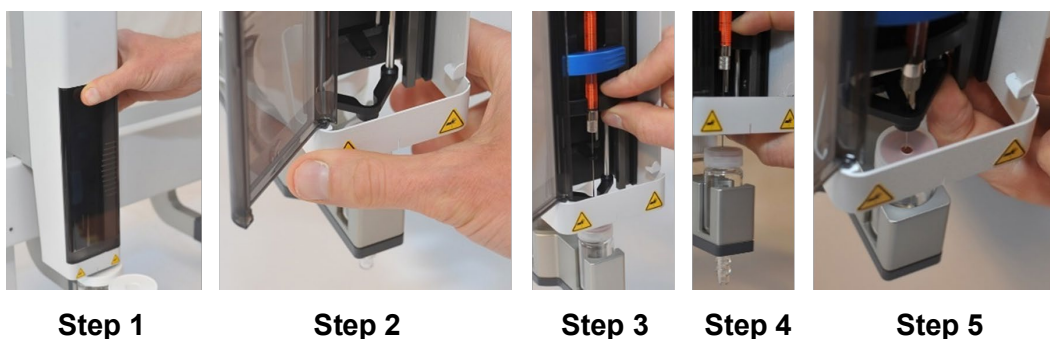

Figure 42: Autosampler Configurator/Tower Teach Position
- **Teach XYZ** – Press this button to teach the position of vial 1 (reference vial, frontmost position, the waste port vial). The tower will move to the last known position and the motors are unpowered as indicated in the unpowered status message. Manually move the tower to vial 1 of the wash station as demonstrated in Figure 42.
1. Move the tower of the Autosampler to the wash station (**Figure 42, Step 1**).
2. Position the tower above the teach position i.e vial 1, frontmost position (**Figure 42, Step 2**).
3. Take the syringe holder between two fingers and move it downwards (*Figure 42, Step 3*).
4. Push the needle guide upwards and check if the needle is positioned in the middle of the vial (*Figure 42, Step 4*).
5. Move the tower in order to position the needle in the middle of the vial. Be careful not to damage the needle (*Figure 42, Step 5*).